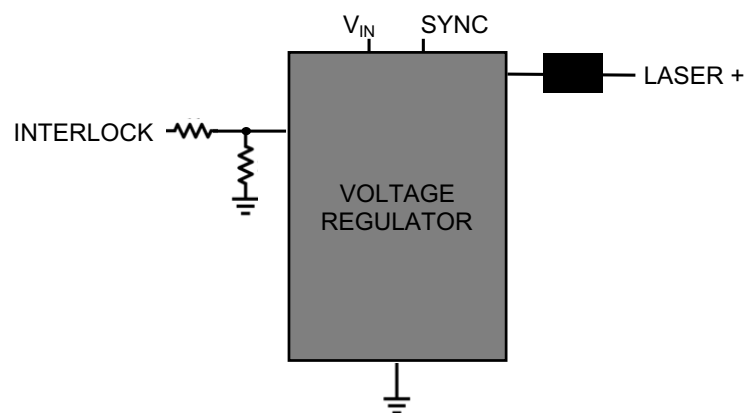

Figure 6.1: Simplified INTERLOCK connection schematic
- IN\_VREG\_INTERLOCK Gates the main voltage regulator chip on the driver card, effectively the DC power supply. Schematized in Fig. 6.1.